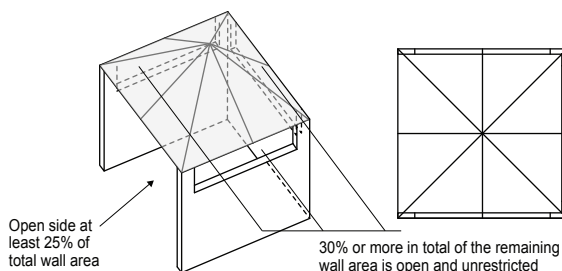
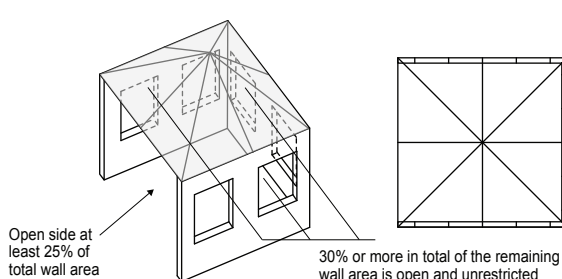

FIGURE 4 - OUTDOOR AREA - EXAMPLE 4
FIGURE 5 - OUTDOOR AREA - EXAMPLE 5
- (3) Within a partial enclosure that includes an overhead cover and more than two walls, the following shall apply:
- See Figure 4 and Figure 5.